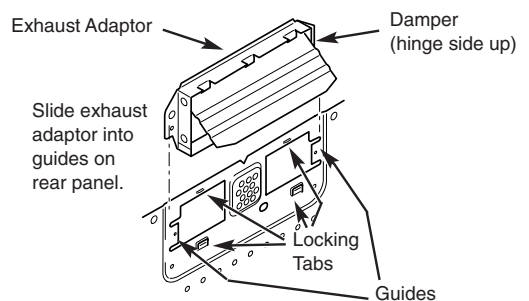

Figure 18
8. Insert the tabs on each side of the damper into the holes at the inside rear of the adaptor. Attach the exhaust adaptor to the back plate wall side. Push in securely until it is past the top locking tabs and in the lower locking tabs. Take care to assure the damper hinge is installed so that it is at the top and that the damper swings freely. See Figure 18.